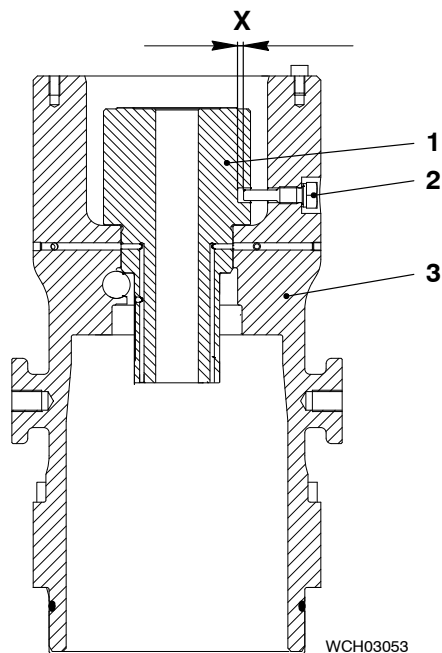

Fig. 13
- 4) Use a low-pressure air supply to make sure that the bores in the housings and the pump cylinder (1, Fig. 13) are clear.
- 5) Make sure that the top housing (3) points up.